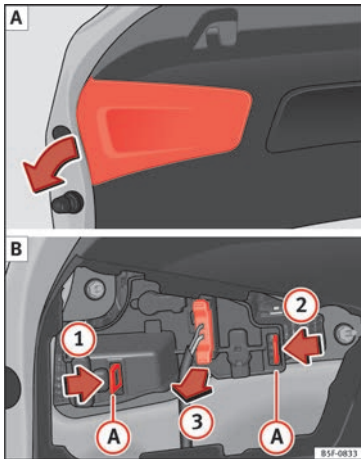

Fig. 114 Remove the cover from the boot lid and detach the bulb holder.
- Remove the rear lid cover in the direction indicated » **Fig. 114 [A]**.
- Unlock the retaining tabs **(A)** of the bulb holder, following the direction of arrows **1** and **2** » **Fig. 114 [B]**.
- Remove the bulb holder, moving it in the direction of arrow **3** » **Fig. 114 [B]**.
- Reinstall the bulb holder, making sure that locking clips **(A)** » **Fig. 114 [B]** are properly clipped on.